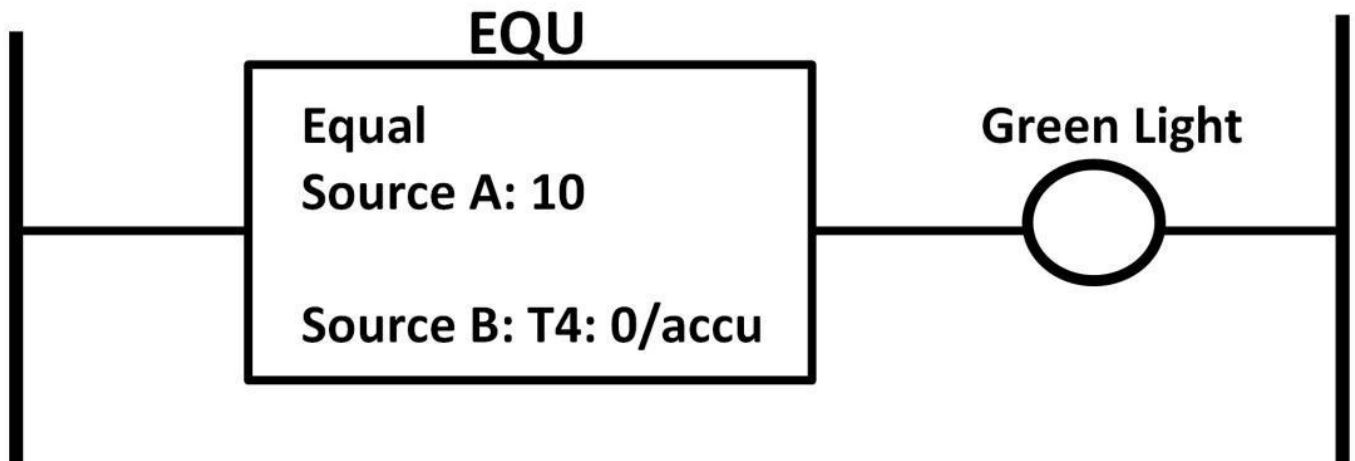

Figure 8.53: EQU instruction example
PLCs come with logic instructions to perform compare functions. Compare instructions are input instructions. If the comparison result is true, the compare instruction output goes high. A list of compare instructions that compare numerical values is shown on the next page: equal to (EQ); not equal to (NEQ); less than (LES); greater than (GRT); less than or equal to (LEQ); greater than or equal to (GEQ). Let's first examine the EQU instruction. In figure 8.53, the EQU instruction turns on a red light when source A (10) is equal to source B (timer accumulative value).